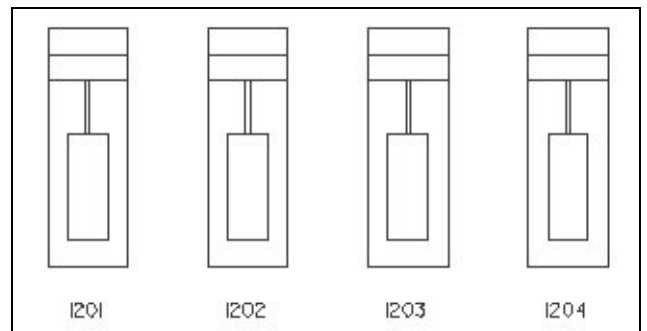

Figure 6 Plan View with Pump Tags
- Click **Ok**. At this stage you will be prompted to place the pump ID tag. When done, a drawing may look similar to Figure 6.